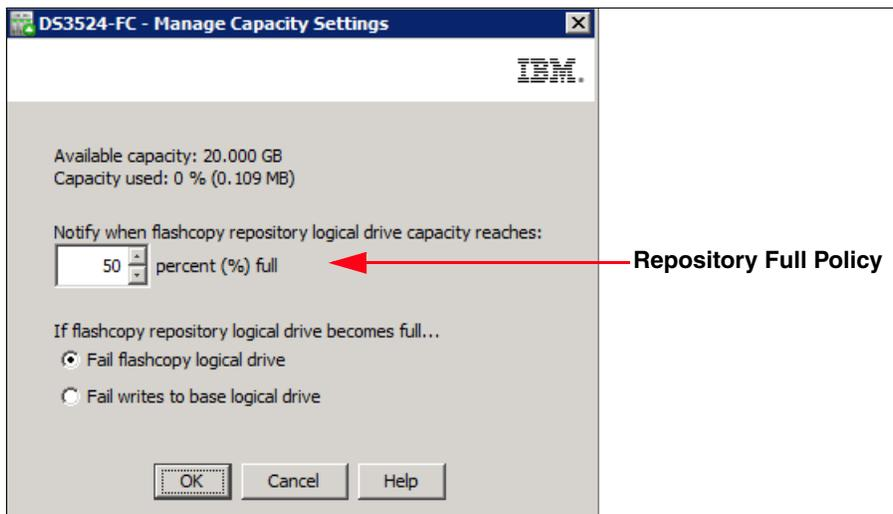

Figure 2-30 FlashCopy Repository Logical Drive - Properties: Capacity tab
5. View or set the following FlashCopy repository logical drive capacity properties on the Manage Capacity Settings panel (Figure 2-30). The text box allows the user to set the percentage capacity at which the FlashCopy repository logical drive issues a warning indicating that the repository is nearing its capacity. The default percentage setting is 50% of the FlashCopy repository logical drive's maximum capacity.